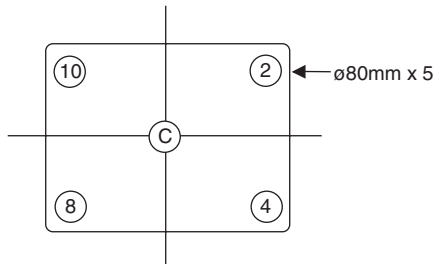

FIGURE 1
- (2) Turn over the direction of CPT axis direction magnetic field of the next artificial magnetic field and after degaussing it from outside, check the purity in each color of R, G, B visually Turn the screen to white and check the landing at the screen position shown in fig. 1. The positions of miss landing criteria with a microscope should be 2, 4, 8 and 10 (Figure 1).